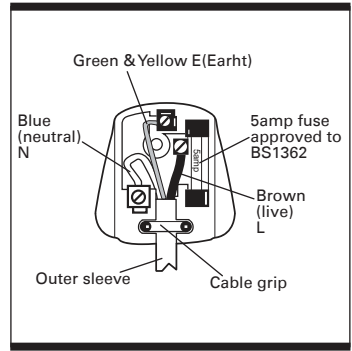

Fig. 21
- Carefully place the saw on its side, as shown in Figure 21. Remove the rubber cap from the upper and the lower arm of the saw.
PLUG REPLACEMENT (Fig. 21)